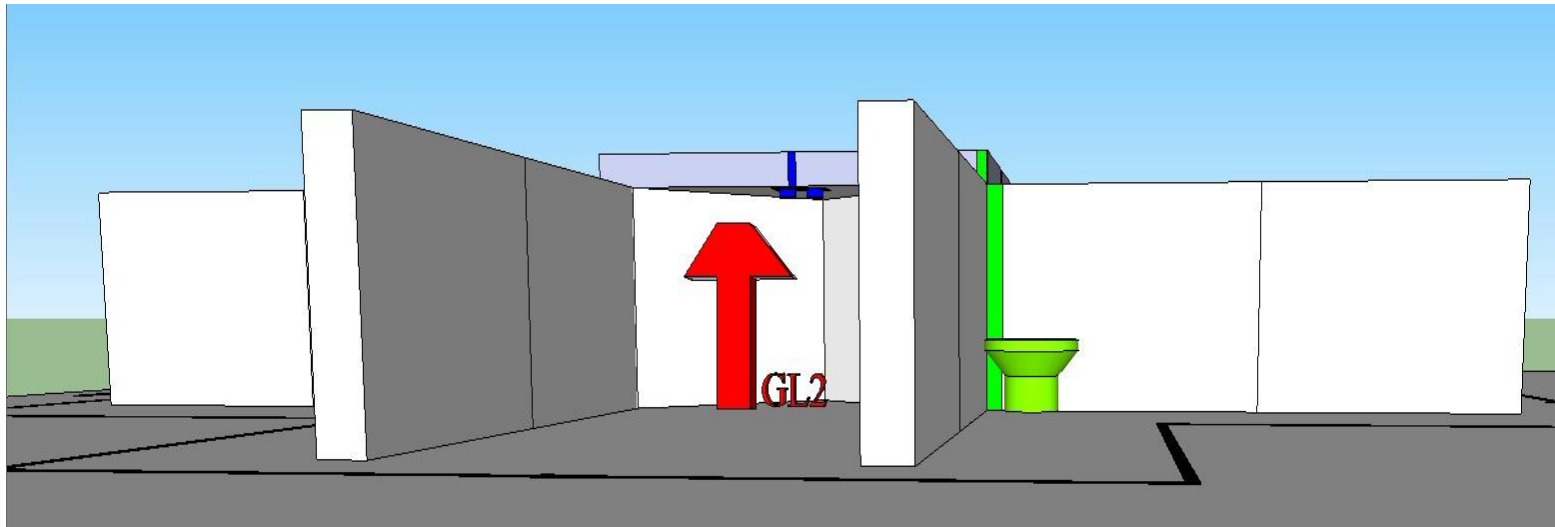

Figure 5: Gas Leakage zone (GL2) present in the Pipeline Area.
- **Gas Leakage Zone:** Four inner ends of a Pipeline Area where a LED Array can be placed are referred to as **GL1, GL2, GL3** and **GL4** which are attached to the Ceiling of the Central Walls. An example of **GL2** is shown in Figure 5.